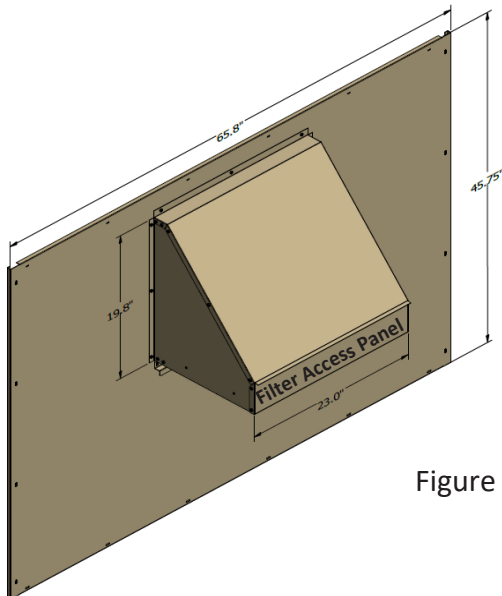

Figure 1
4. Remove Filter Access Panel and filter. (Figure 1)